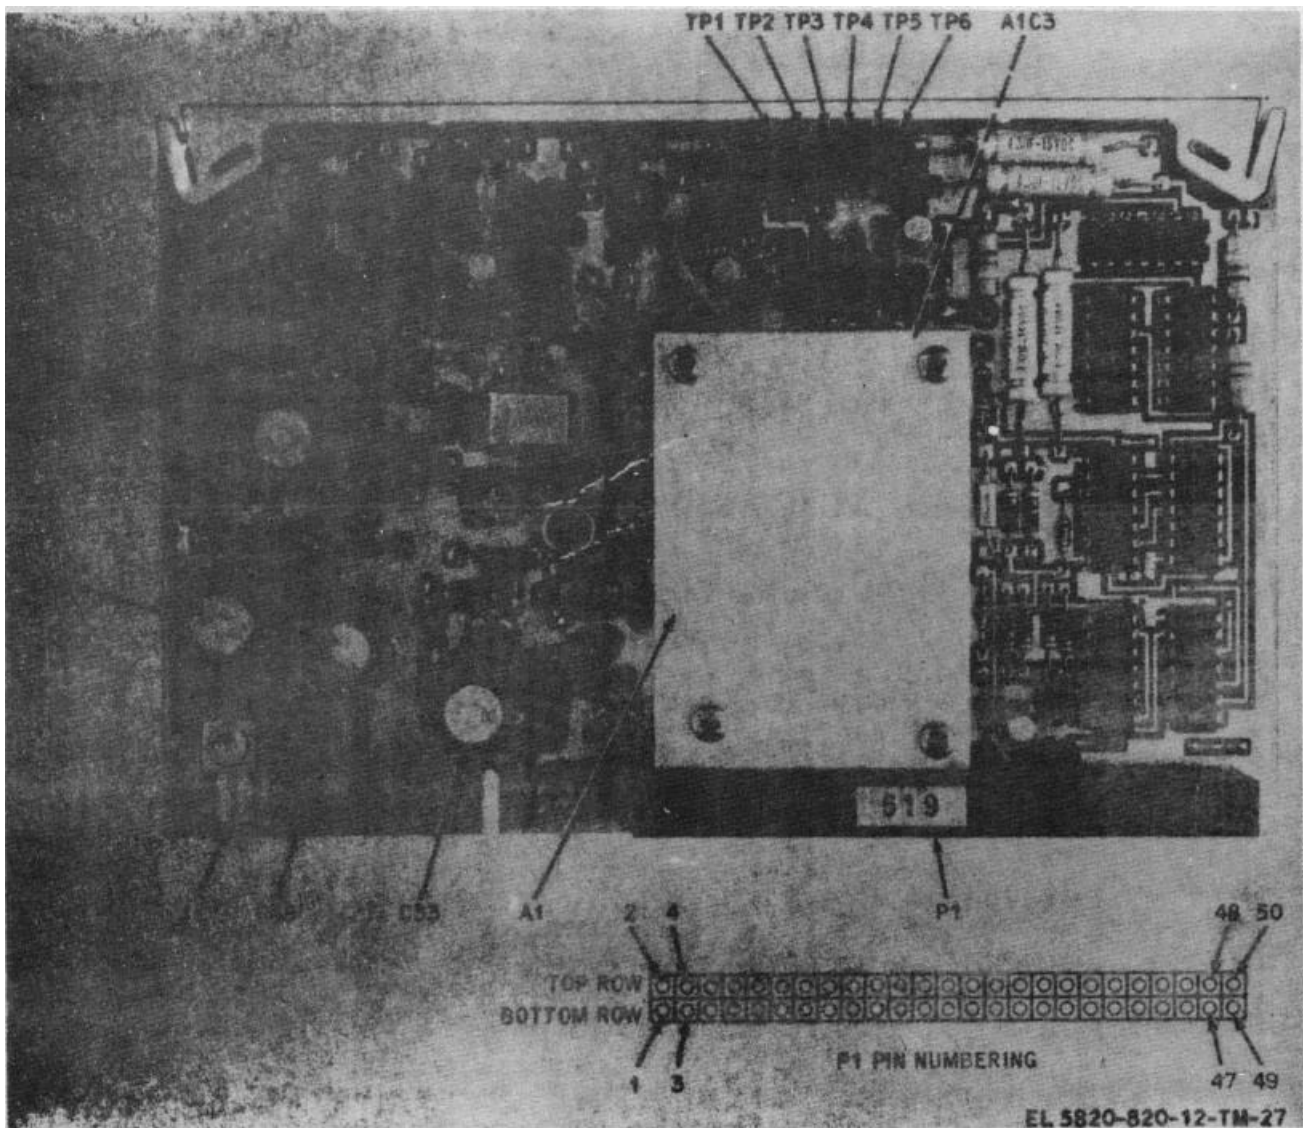

Figure 1-9. TCXO/multiplier card 6A2.
- (2) Temperature-compensated crystal oscillator (TCXO)/multiplier card A2 (figure 1-9)